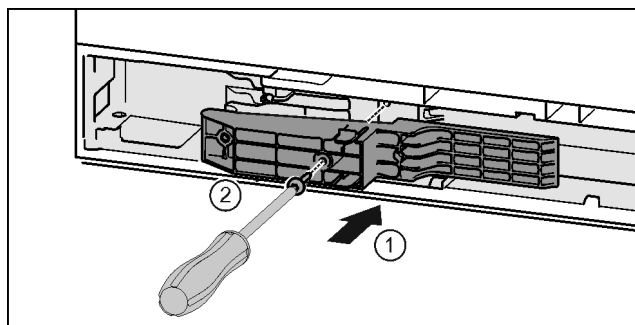

Fig. 43 *
- ▶ Install the adapter on the handle side of the slot. Fig. 43 (1)*
- ▶ Tighten the screws with the T15 screwdriver. Fig. 43 (2)*